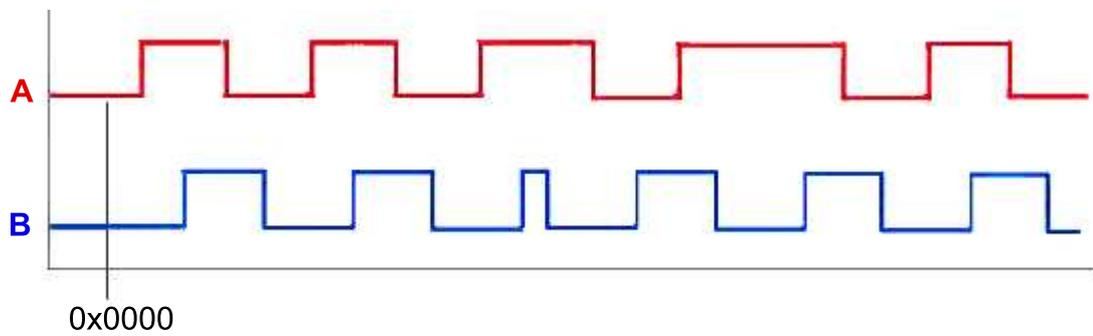

Figure 3: Sample output for pre-lab problem 3b. The 16-bit counter is initialized to 0x0000.
- b. **Repeat Part (a) for Figure 3**, but assume that the function is running in fast mode now.